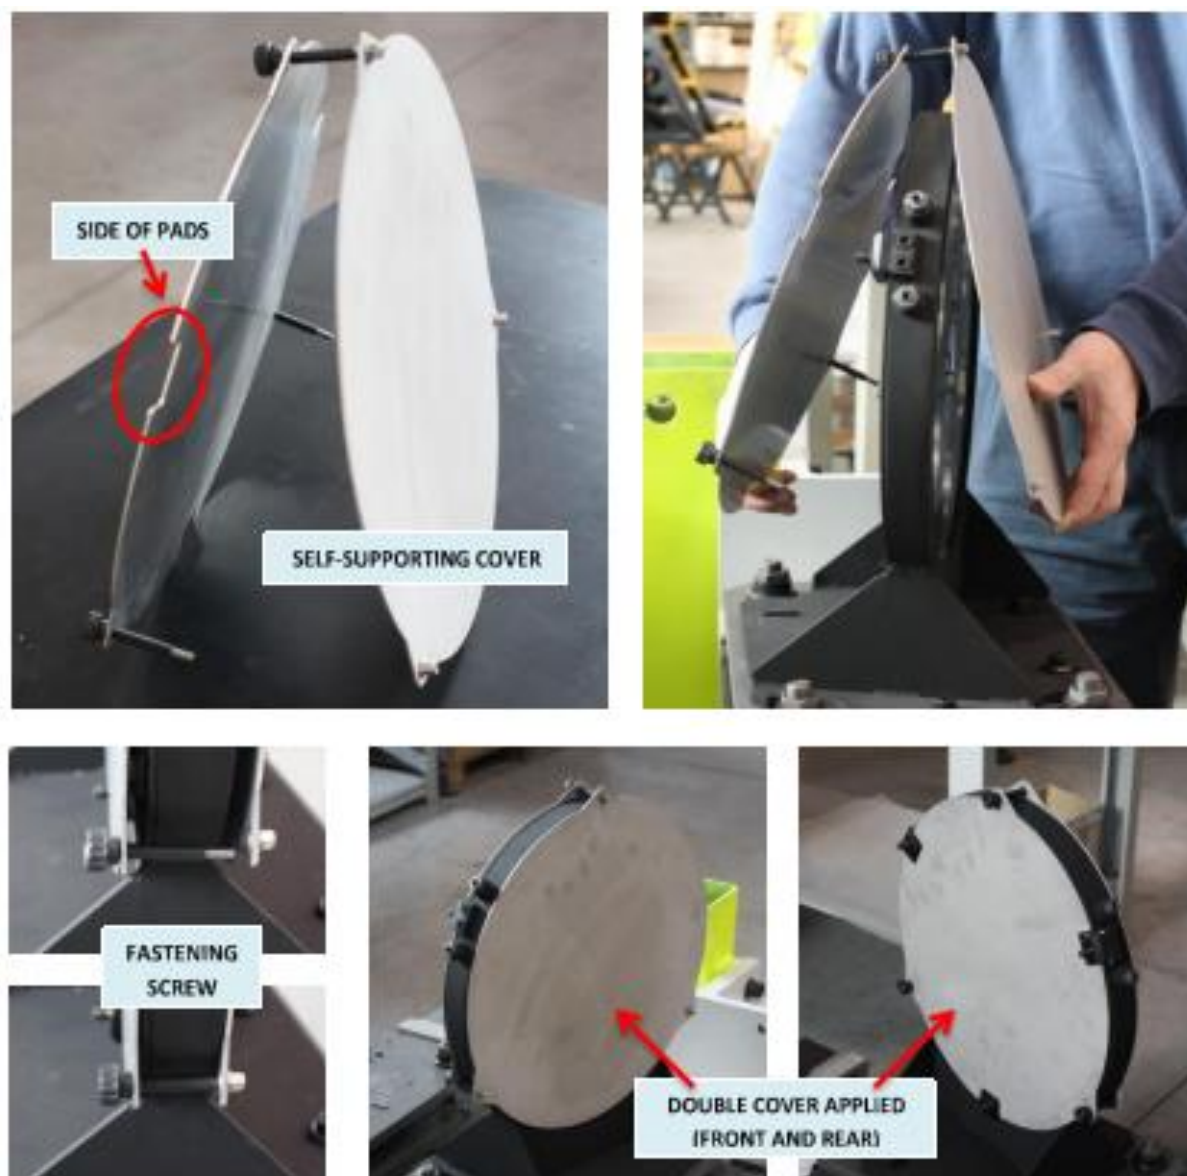

Figure 4. Installation of the dichroic cover.
4. Optic covers: there are 2x stainless steel covers for the dichroic and 2x for the fold mirror. They must be mounted on the optics before handle the mount itself. Figure 4 shows how to install the cover on the dichroic cell. The fastening screws are captive and can be tightened through a 3mm allen wrench. Fold mirror is treated accordingly.